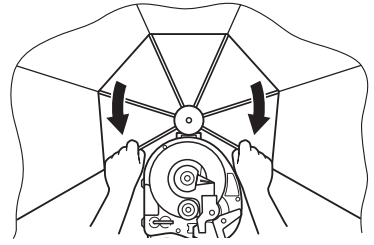

Fig. 19
- (2) Open the guard fully by pulling the arms as shown below until a click is heard. (Fig. 19)